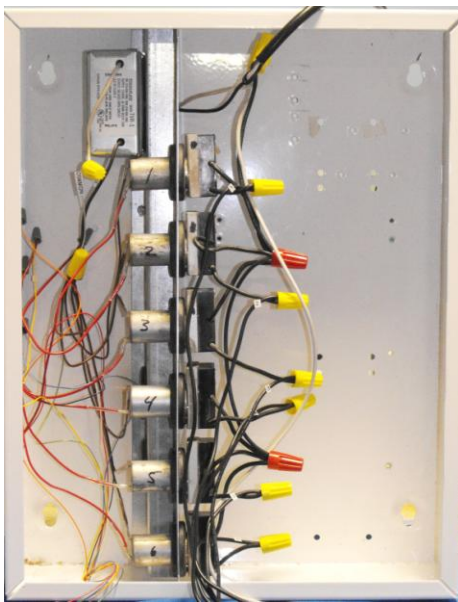

Figure 4.1
****See Figures 4.1 – 4.5 for visual explanations****